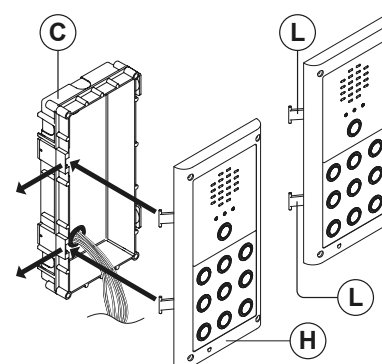
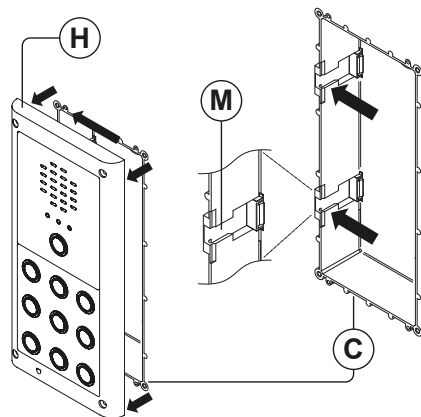

Fig. 68
Fig. 69
5. Take the frame's hinges (L) and hook the module support frame (H) to the flush box (C), starting from the left following the guide arrows, as shown in **Fig.68**. Ensure that the frame's hinges (L) (**Fig.68**) fit inside the relevant hinge mounts (M) inside the flush box (C), as shown in **Fig.69**;